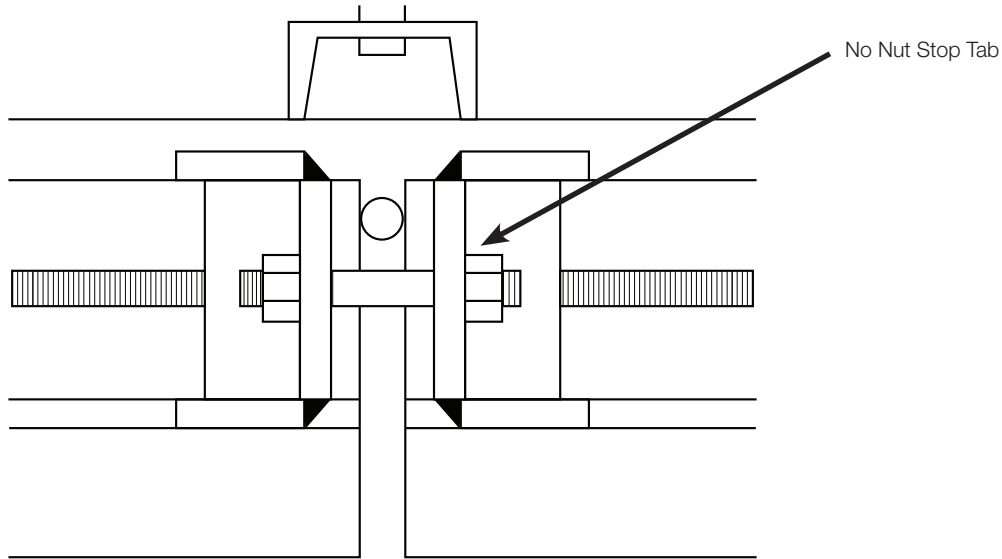
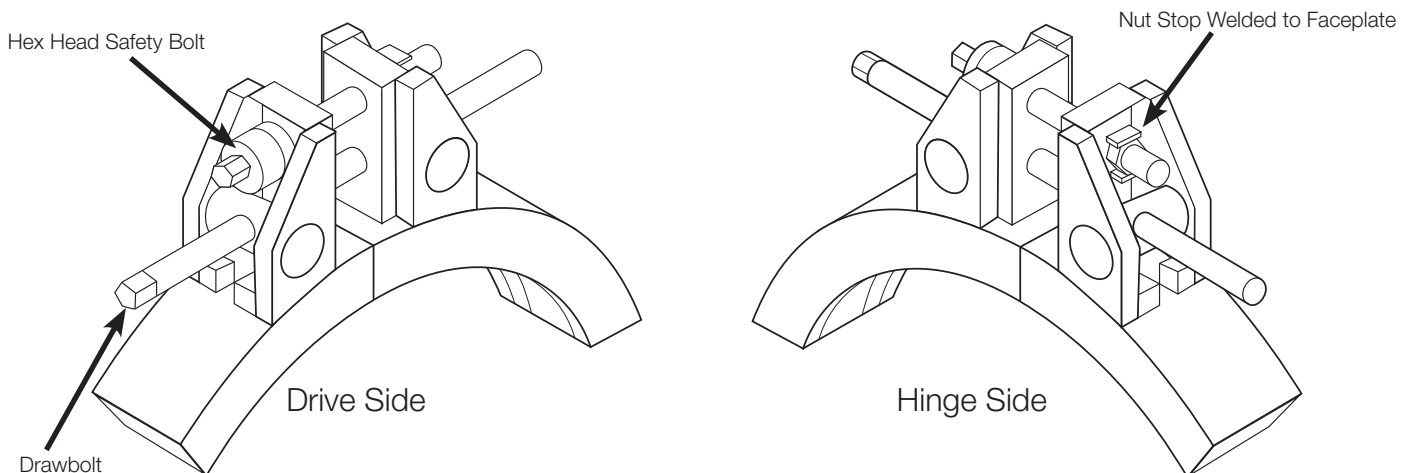

Figure 5: Original QOC Safety Bolt Assembly
Figure 6: QOC2 or QOC3 Safety Bolt Assembly with Hex Head Safety Bolt
4.3.1 The QOC2 or QOC3 will have two “Nut Stops” on the hinge arm side of the closure. These Nut Stop Tabs will hold the non-drive side safety nut in position while the Safety Bolt is torqued. Only the QOC2 or QOC3 will have Nut Stops; therefore, this is another helpful way to distinguish the Original QOC from the QOC2 or QOC3. An up-close sketch of this Nut Stop is shown in Figures 6 & 7 below. As seen in Figure 5, the original QOC Safety Bolt Assembly does not include a Nut Stop Tab.